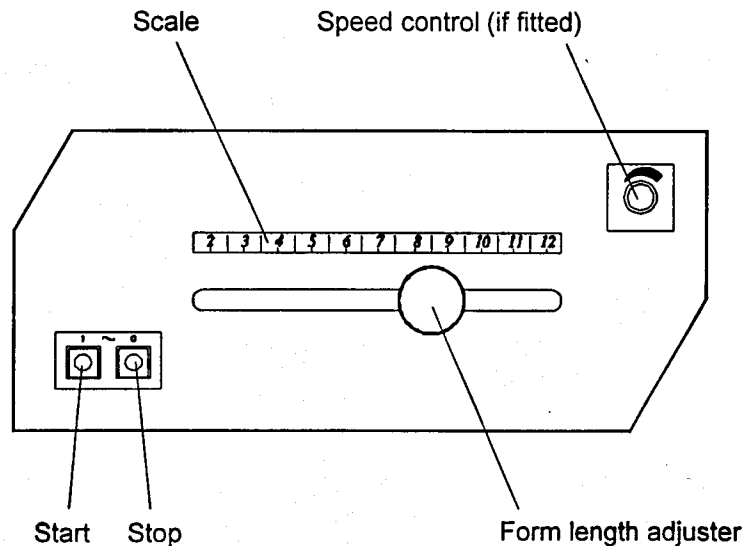

FIG. 3
- 2.3 Switch on at the mains source. Referring to Fig. 3 below, push in the form length adjuster knob and turn it so that the length of the finished paper accords with the setting on the scale (in inches). The centre line of the shaft should align with the scale setting; in the example shown below, the length is set to 8½ inches. Ensure that the knob has fully returned when setting is complete. This will then lock it in place.